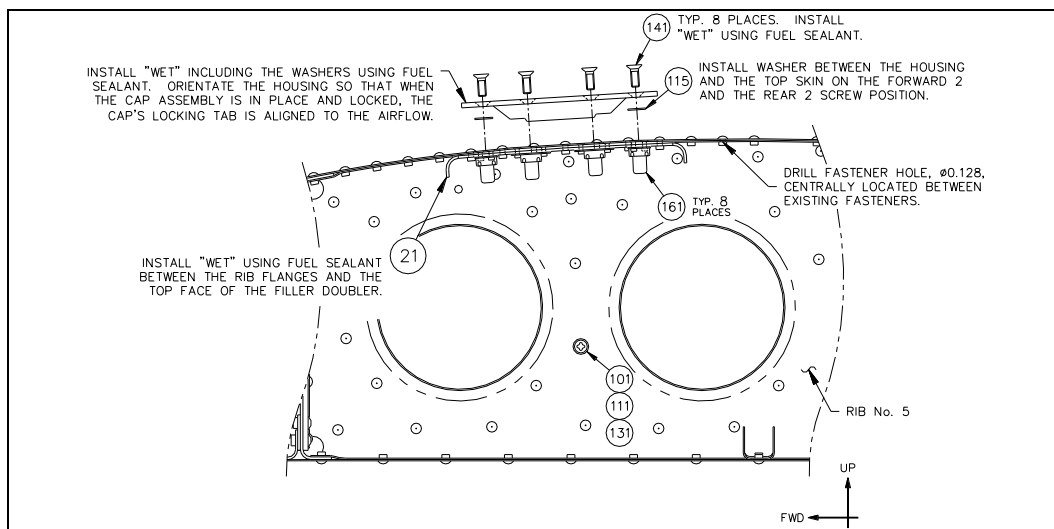

Figure 1: Fuel filler housing installation – Port wing shown
14. Install fasteners, items 101, 111 and 131 in the existing hole that fastened the removed doubler spring on Rib No. 5 as shown in Figure 1.
16. Install anchor nuts, item 161 onto the filler doubler on the inside of the tank using countersunk fasteners, item 151. There is no requirement to install anchor nuts and fasteners with fuel sealant. Refer to Figures 1 and 3.
17. Install fuel filler adapter flange, part of item 221, wet using fuel sealant, item 213 between the housing lower face and fuel tank top skin. Using fuel sealant item 211, install countersunk structural screws, item 141 and thin washers, item 115 on the forward 2 and rear 2 fastener positions between the flange and the top skin of the fuel tank. Orientate the flange so that when the cap assembly is in place and locked, the cap's locking tab is aligned to the airflow. Either remove or smooth finish any excess squeeze out of the sealant. Trial fit fuel cap, part of item 221 to ensure that the cap's locking tab aligns to the airflow, before fuel sealant curing.